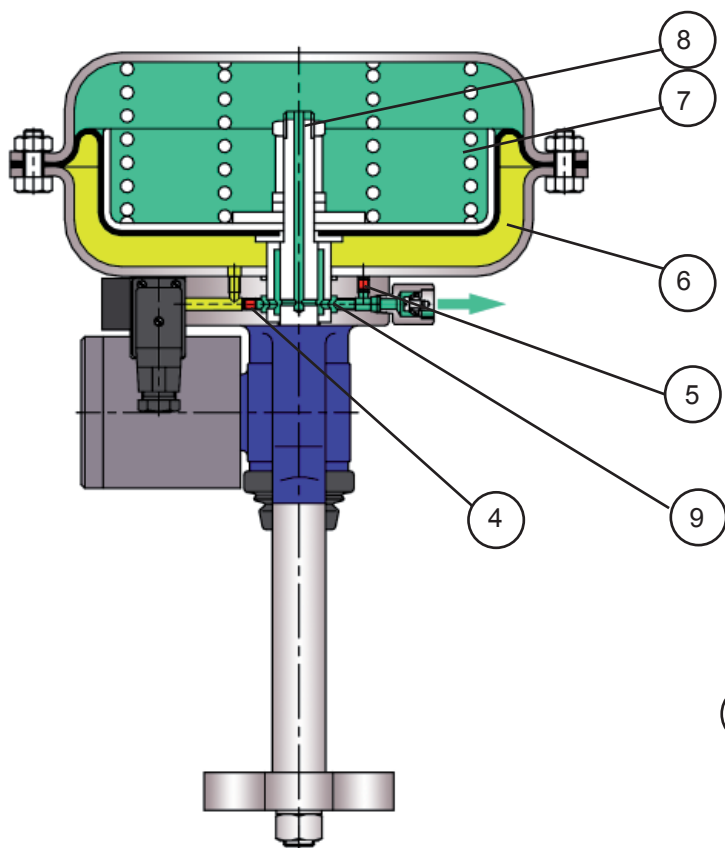

Fig. 1 The R5 actuator
Operation principle of the actuator is illustrated on drawings Fig. 1, 2 and 3.
For the R5 actuator of inversed operation (Fig. 1) the air is forwarded directly to the pressure chamber (6). The non-pressure chamber (7) is connected to channels (14) and vent plug (10) via the opening (8) in the actuator rod and the guiding sleeve (9).